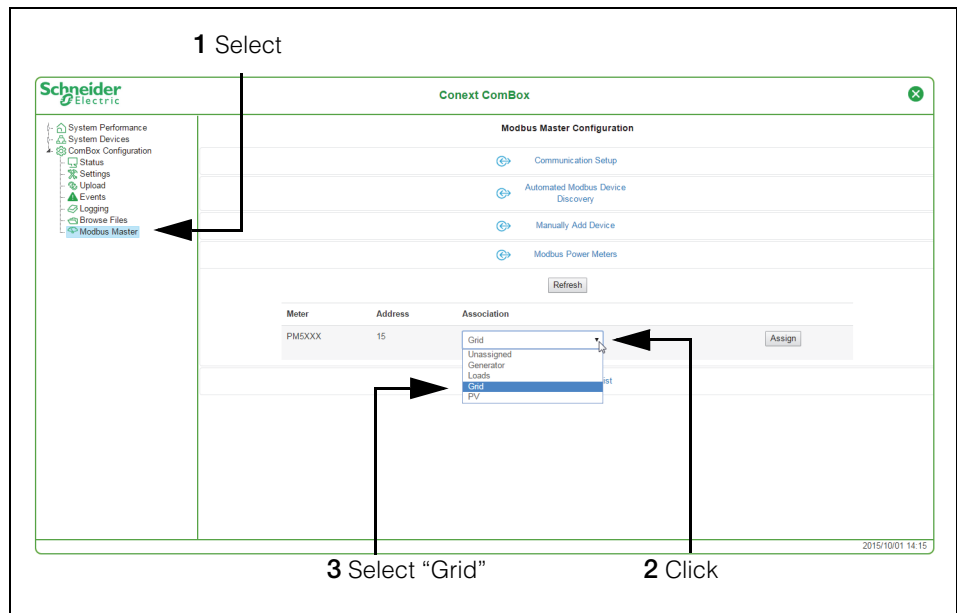

Figure 3-3 Power Meter Configuration
2. The PM must be assigned to **Grid** under **Association** which can be done from the ComBox Web User Interface. See Figure 3-3, “Power Meter Configuration” on page 3–33.